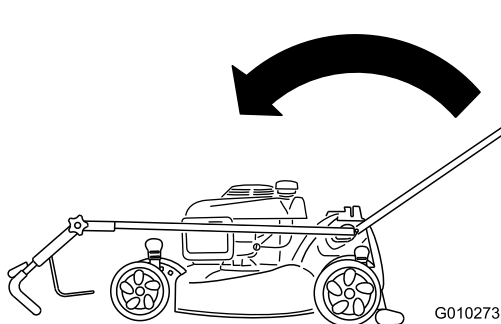

Figure 52
2. Move the handle all the way forward and loosen the upper handle knob (Figure 52).